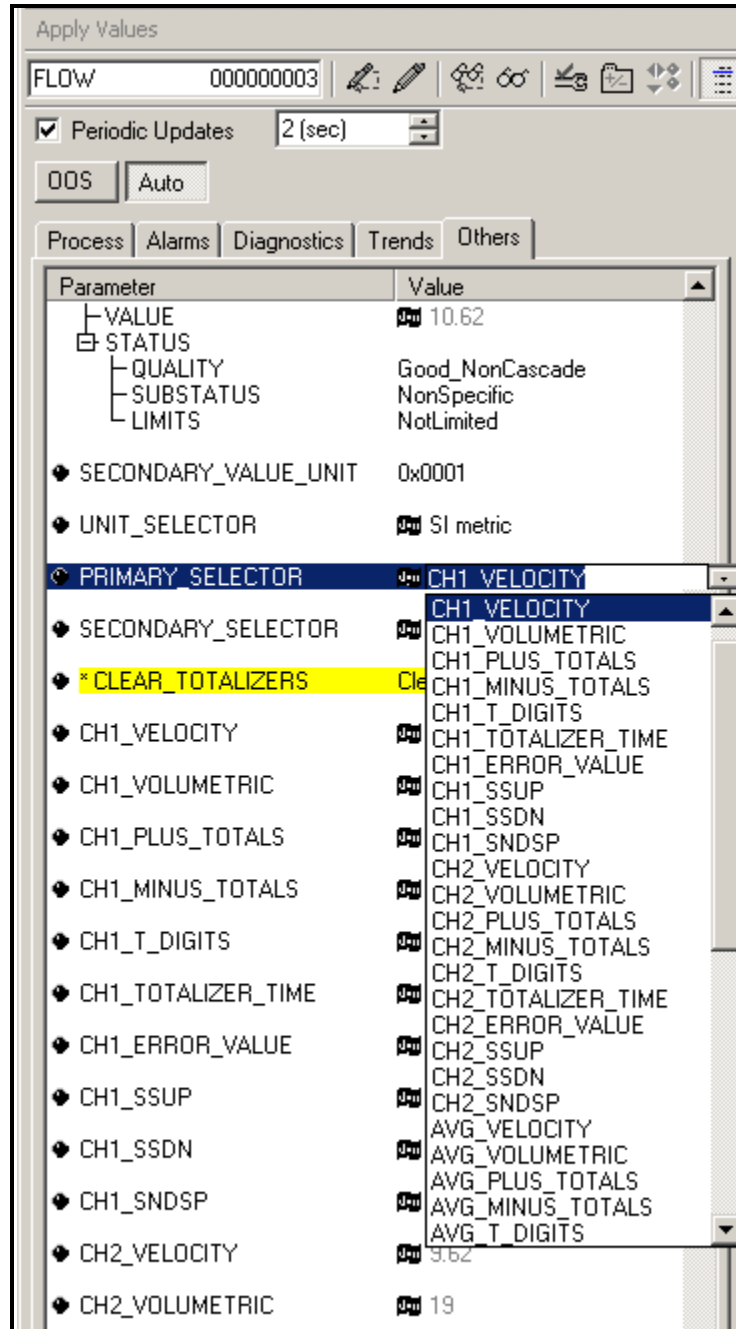

Figure E-2: Primary Selector Drop Down List
2. Select the **Others** tab and open the drop down list for the PRIMARY\_SELECTOR and SECONDARY\_SELECTOR (refer to Figure E-2 on page E-3).
3. Choose the unit from the list (see Figure E-2 on page E-3).